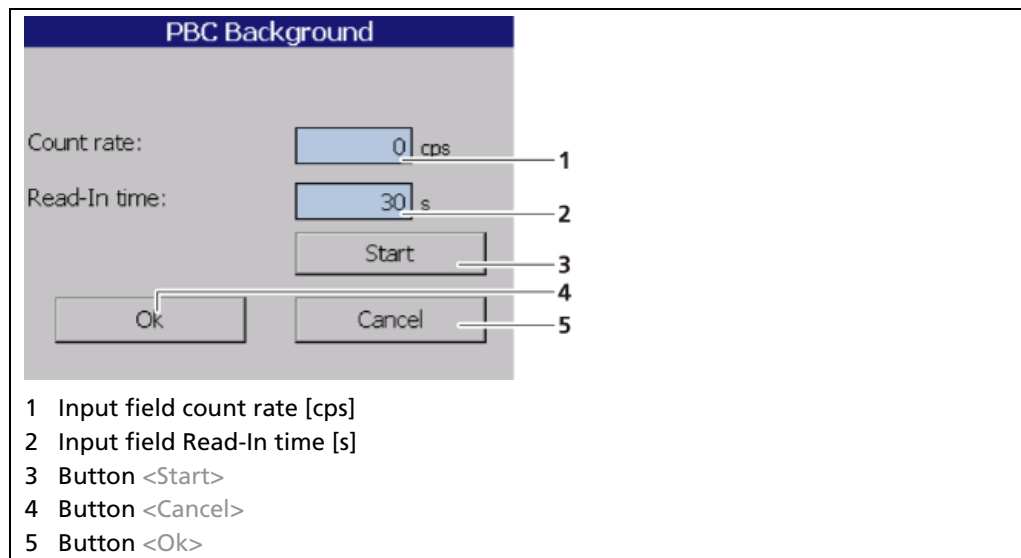

Fig. 76 PBC Background
- ▶ A new window "PBC Background" opens to determine the background radiation (Fig. 76).
The value of the count rate can be entered manually (Fig. 76, item 1), if a determination of background radiation without interference radiation effects is not possible.